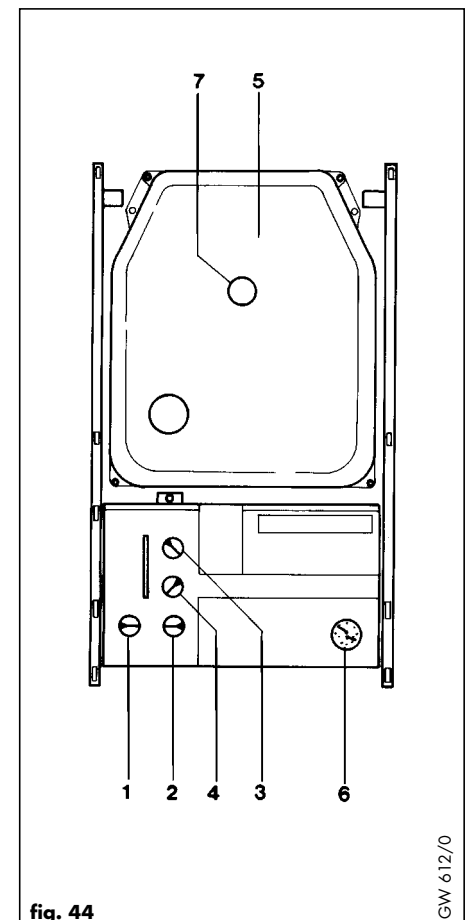

fig. 44
Set the maximum radiator temperature control (3, fig. 44) to the desired setting.
Set the maximum hot water temperature control (4, fig. 44) to the desired setting. For normal circumstances the maximum hot water temperature should be set to 6.
Note: The boiler is fitted with a combustion analysis test point (7, fig. 44). A suitable combustion analyser can be connected to this point to establish the combustion performance of the boiler.
Operate the boiler by turning the maximum hot water temperature control (4, fig. 44) to '9' and fully opening a hot water tap. Inspect the burner operation through the viewing window. Check that the flames are burning evenly over the full surface of the burner. Inspect for signs of excessive lifting or sooting.
- Turn off the gas service valve (2)
- Turn off DHW cold water service valve (4).
6.2.3 Remove combustion chamber front cover (5, fig. 44)